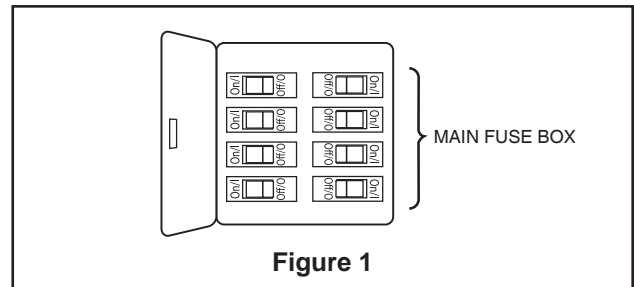

Figure 1
1. Remove the hanger ball portion from the downrod/hangerball assembly by loosening the set screw in the hanger ball until the ball falls freely down the downrod. Remove the pin from the downrod, then remove the hanger ball. Retain the pin and hanger ball for reinstallation in Step 6 (Figure 1).
The fan must be hung with at least 2.3 M of clearance from floor to blades (Figure 1).
To avoid possible electrical shock, be sure electricity is turned off at the main fuse box before hanging (Figure 1).
- 1.** Remove one of the two shoulder screws in the hanger bracket. Loosen the second shoulder screw without fully removing it. Assemble canopy by rotating key slot in canopy over shoulder screw in hanger bracket. Tighten shoulder screw. Fully assemble and tighten second shoulder screw that was previously removed (Figure 1).
1. Remove the blade bushing cover (Figure 1).
1. Restore electrical power to the outlet box by turning the electricity on at the main fuse box (Figure 1).